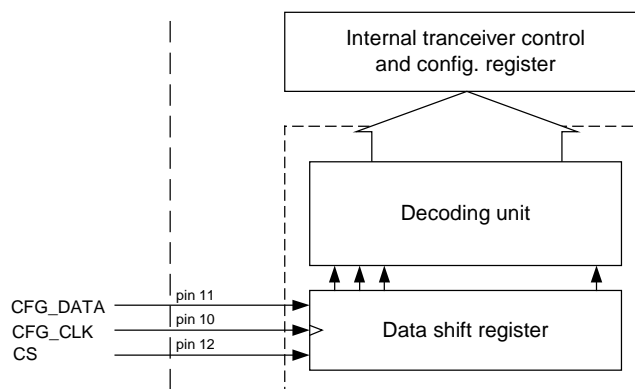

Figure 5. Serial Peripheral Interface (SPI) for chip configuration
Transceiver parameters are clocked into the data shift register in the internal configuration unit by using the three-pin serial interface consisting of CS, CFG_CLK and CFG_DATA. Chip select (CS) is used to enable the transceiver configuration mode. Figure 5 illustrates the serial interface block diagram.